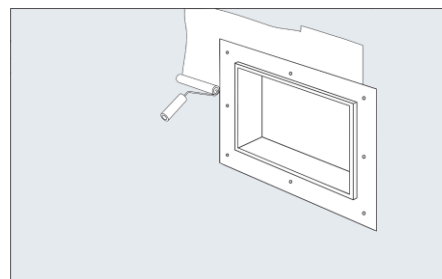

Fig. 3.
**STEP 4:** Apply primer onto wallboard around outside perimeter of EasyNiche (to approx 75mm.) and then apply primer to EasyNiche Surface(Fig 3).